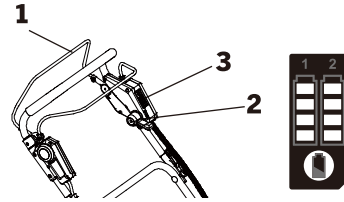

FIG. 12
This lawnmower is equipped with a self propelling lever (1) (Fig. 12) that engages the self-propelling feature. The speed of the lawnmower (while in self propelling mode) can be adjusted using the speed control lever (2) (Fig.12). Put the lever in the "up" position for the fastest speed, and "down" for the slowest. The speeds can be adjusted from 2.1 KPH to 4.7 KPH.
The amount of charge in the batteries is indicated on the LED battery indicator (3) (FIG.12).